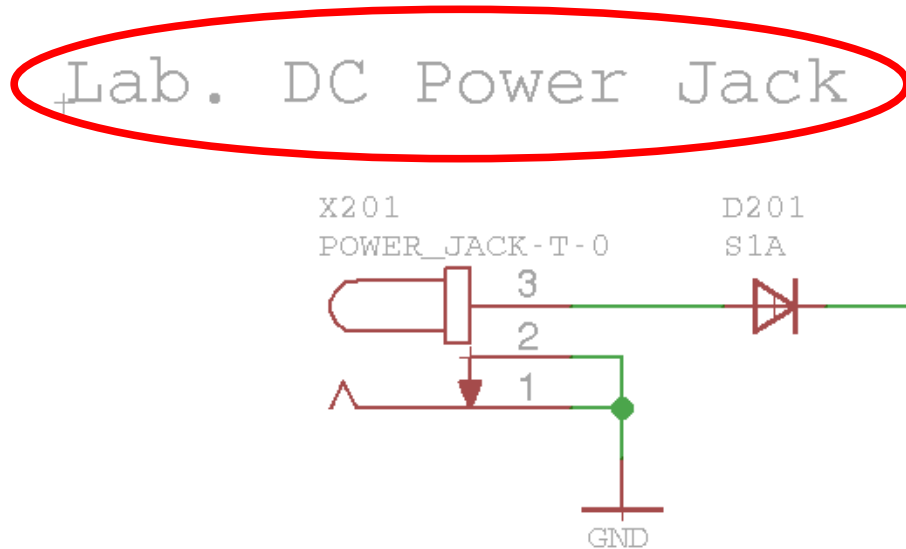

Figure 5: Connector Values
1. Exampe: The power jack X201 in Figure 5 should get an attribute that speaks for its purpose like „Lab. DC Power Jack“ .